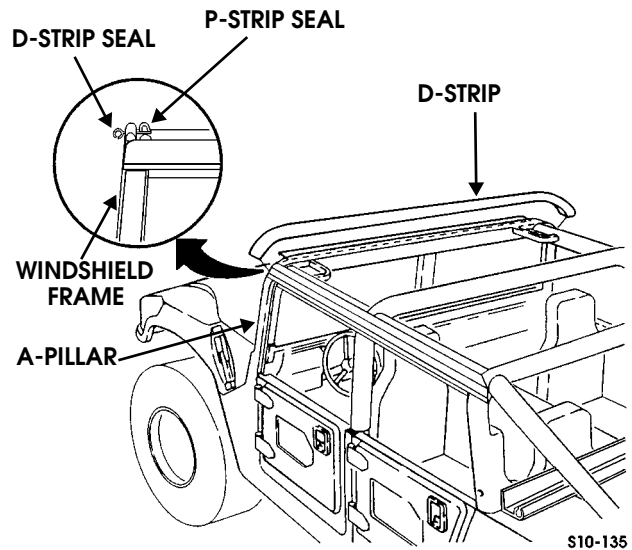

Figure 10-140: Windshield Seal Replacement
4. Install D-strip seal on windshield frame in front of P-seal. Trim as necessary (Figure 10-140).